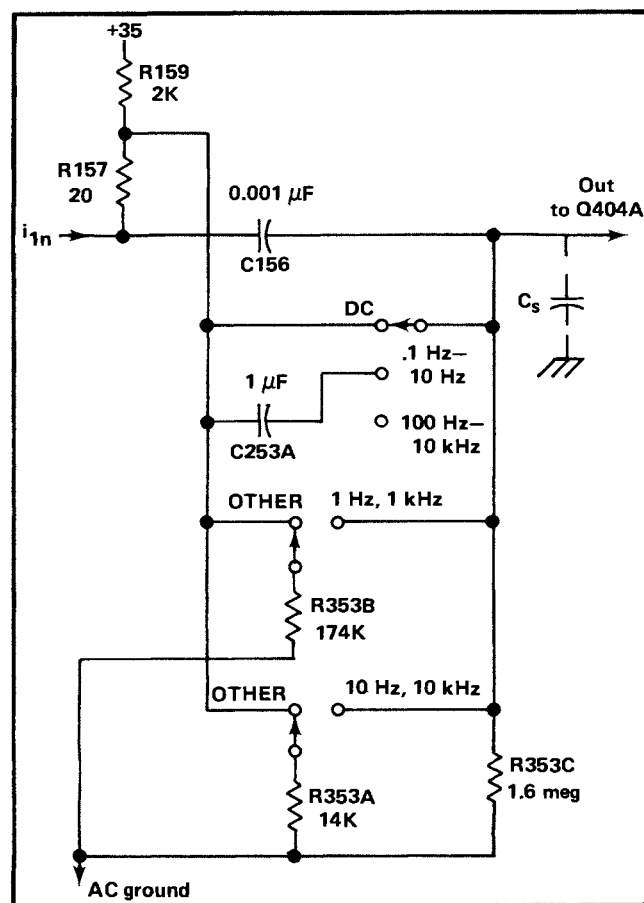

Fig. 3-11. Partial Low Frequency —3 dB Point selector for + Input amplifier.
**LF —3 dB POINT Selector.** This switch selects the low frequency —3 dB point of the amplifier and has a range of 0.1 Hz to 10 kHz in decade steps. Selection is done by switching the resistor and capacitor of a pair of capacitor couplings in each leg of the amplifier. Fig. 3-11 shows half of the selector, with the switch split up into its functional elements.